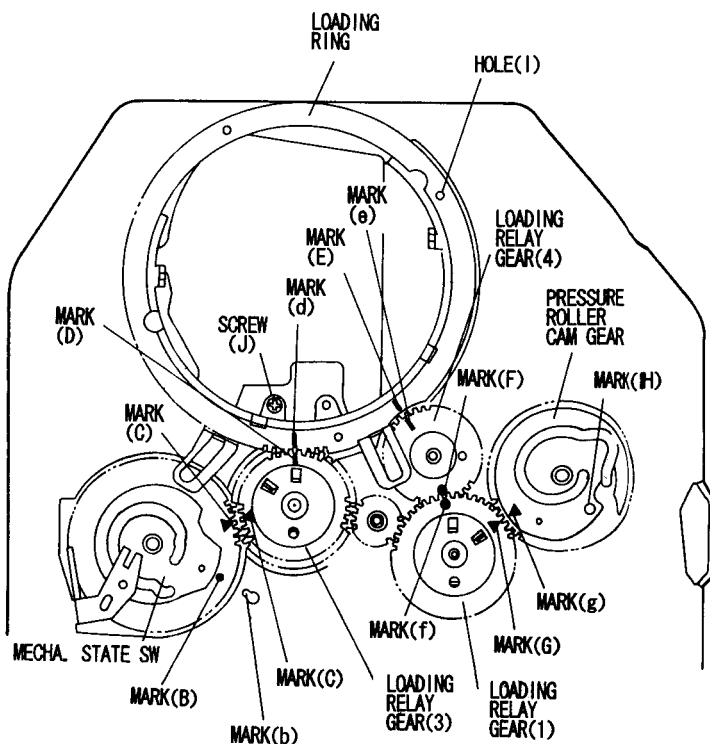

Fig. 3-2
3.2 Loading Gears and Loading Ring (Figs. 3-2, 3-3)
- 1) Align the markings of the loading ring and gears as shown in Fig. 3-2.
- ① Set the upper and lower loading rings to the state shown in Fig. 3-2. (Watch the guide roller fixing section.)
- ② Move the upper and lower loading rings so that holes (I) overlap each other.
- ③ If holes (I) overlap each other, the phase of the loading ring is correct.